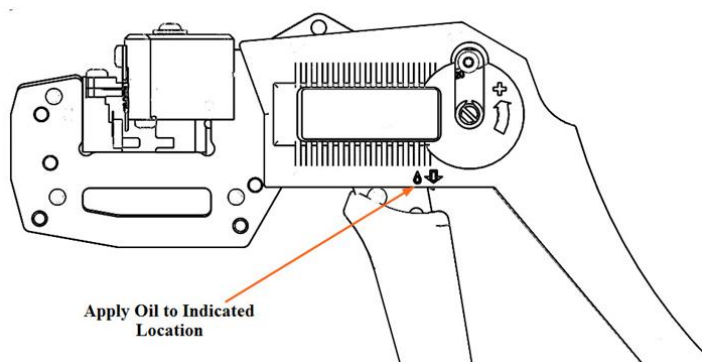

Figure 4
- Make certain all pins, pivot points and bearing surfaces are protected with a thin coat of high quality machine oil. Do NOT oil excessively (Figure 4).